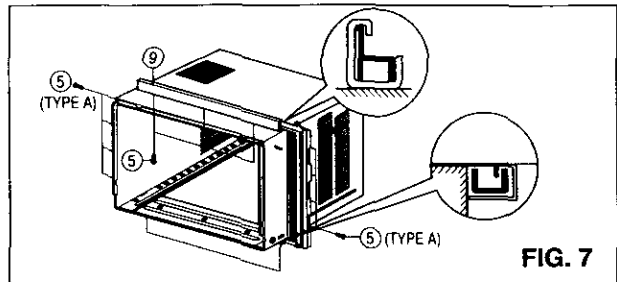

FIG. 7
- 5** Screw the upper guide (9) to the top of the cabinet as shown in FIG. 7 using (3) TYPE A screws (5). Insert the side curtain (1) into the upper guide (9) and lower guide of the air conditioner. Fasten the curtains to the unit with (8) TYPE A screws (5).